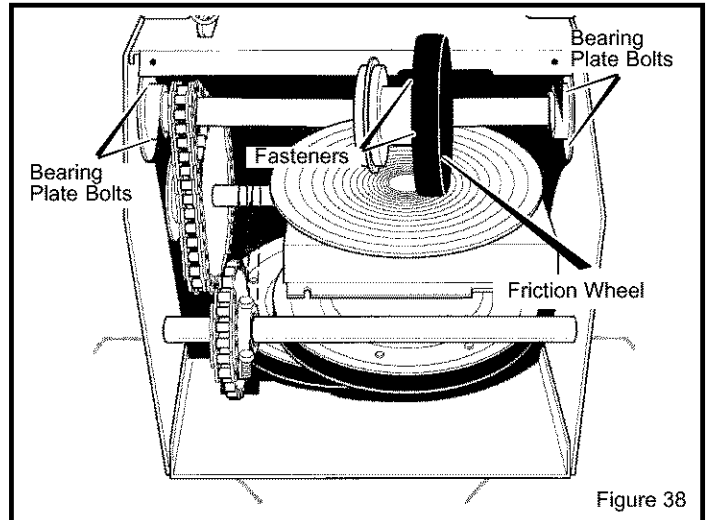

Figure 38
5. Remove fasteners securing friction wheel to hub, and set fasteners aside (see Figure 38).